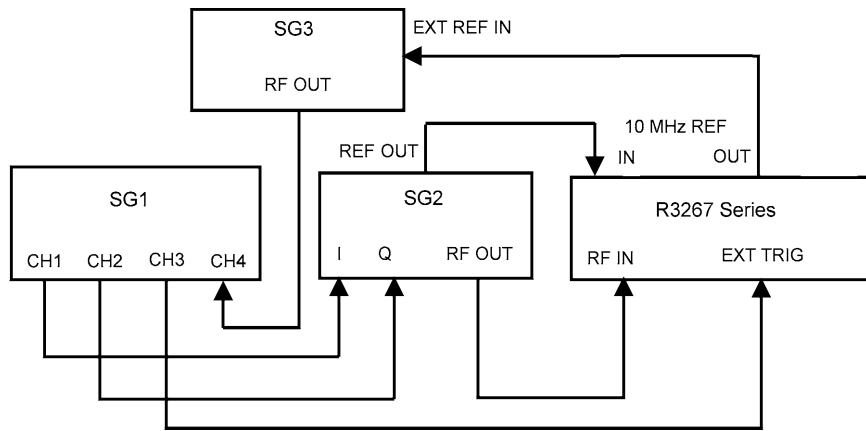

Figure 6-2 Setup of Code Domain Measurement (in RF Input)
1. Connect equipment as shown in Figure 6-2.